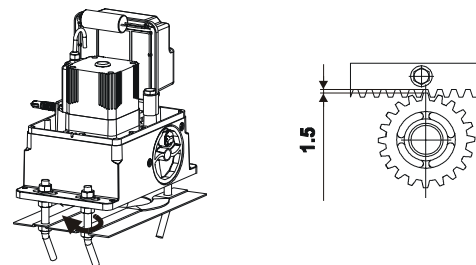

Fig.15
- When the rack has been installed, to ensure it meshes correctly with the pinion, it is advisable to lower the gearmotor position by about 1.5 mm (Fig. 15).